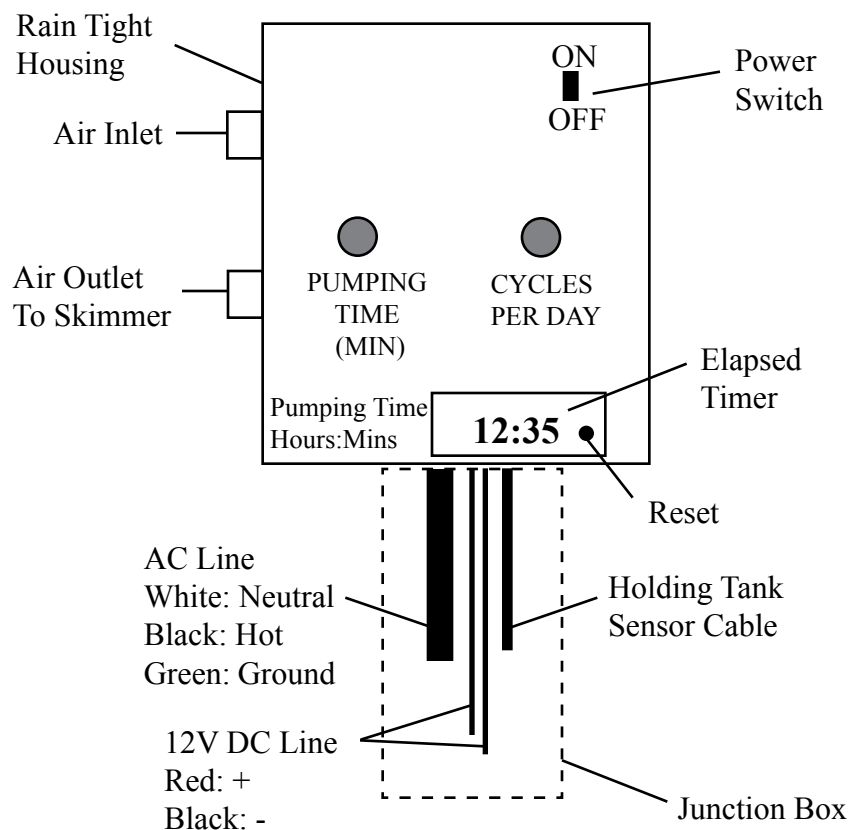

Figure 6
STEP 1. Mount electronic Controller Model 2500ES (Figure 6) in a vertical position near the air source, power source, and holding tank if possible. **CAUTION:** The standard electronic controller is NOT intrinsically safe. If this controller must operate in a CLASS I area, the XITECH Model 2550ES CLASS I controller will be required. Air supply needs to be free of WATER and OIL to have minimum maintenance. **NOTE:** The ON/OFF switch inside the controller is for AC and DC power.
STEP 2. Install holding tank shutoff assembly into holding tank (a 2" standard pipe inlet will be required in the holding tank). The level of product in the holding tank can be set by raising or lowering the liquid level float switch rod. Wire the shutoff switch cable into the controller (Figure 6). **NOTE:** If additional signal cable is needed to position the holding tank assembly further away from the controller, use 18 gauge 2-conductor wire.
STEP 3. Attach power line from the AC or DC power source to the controller (Figure 6). Turn on the controller power switch. If the red "Product Tank Full" light stays on, you have a problem with tank shutoff wiring. Turn off the power switch and re-check the tank shutoff wiring. If the light continues to stay on, call the factory.